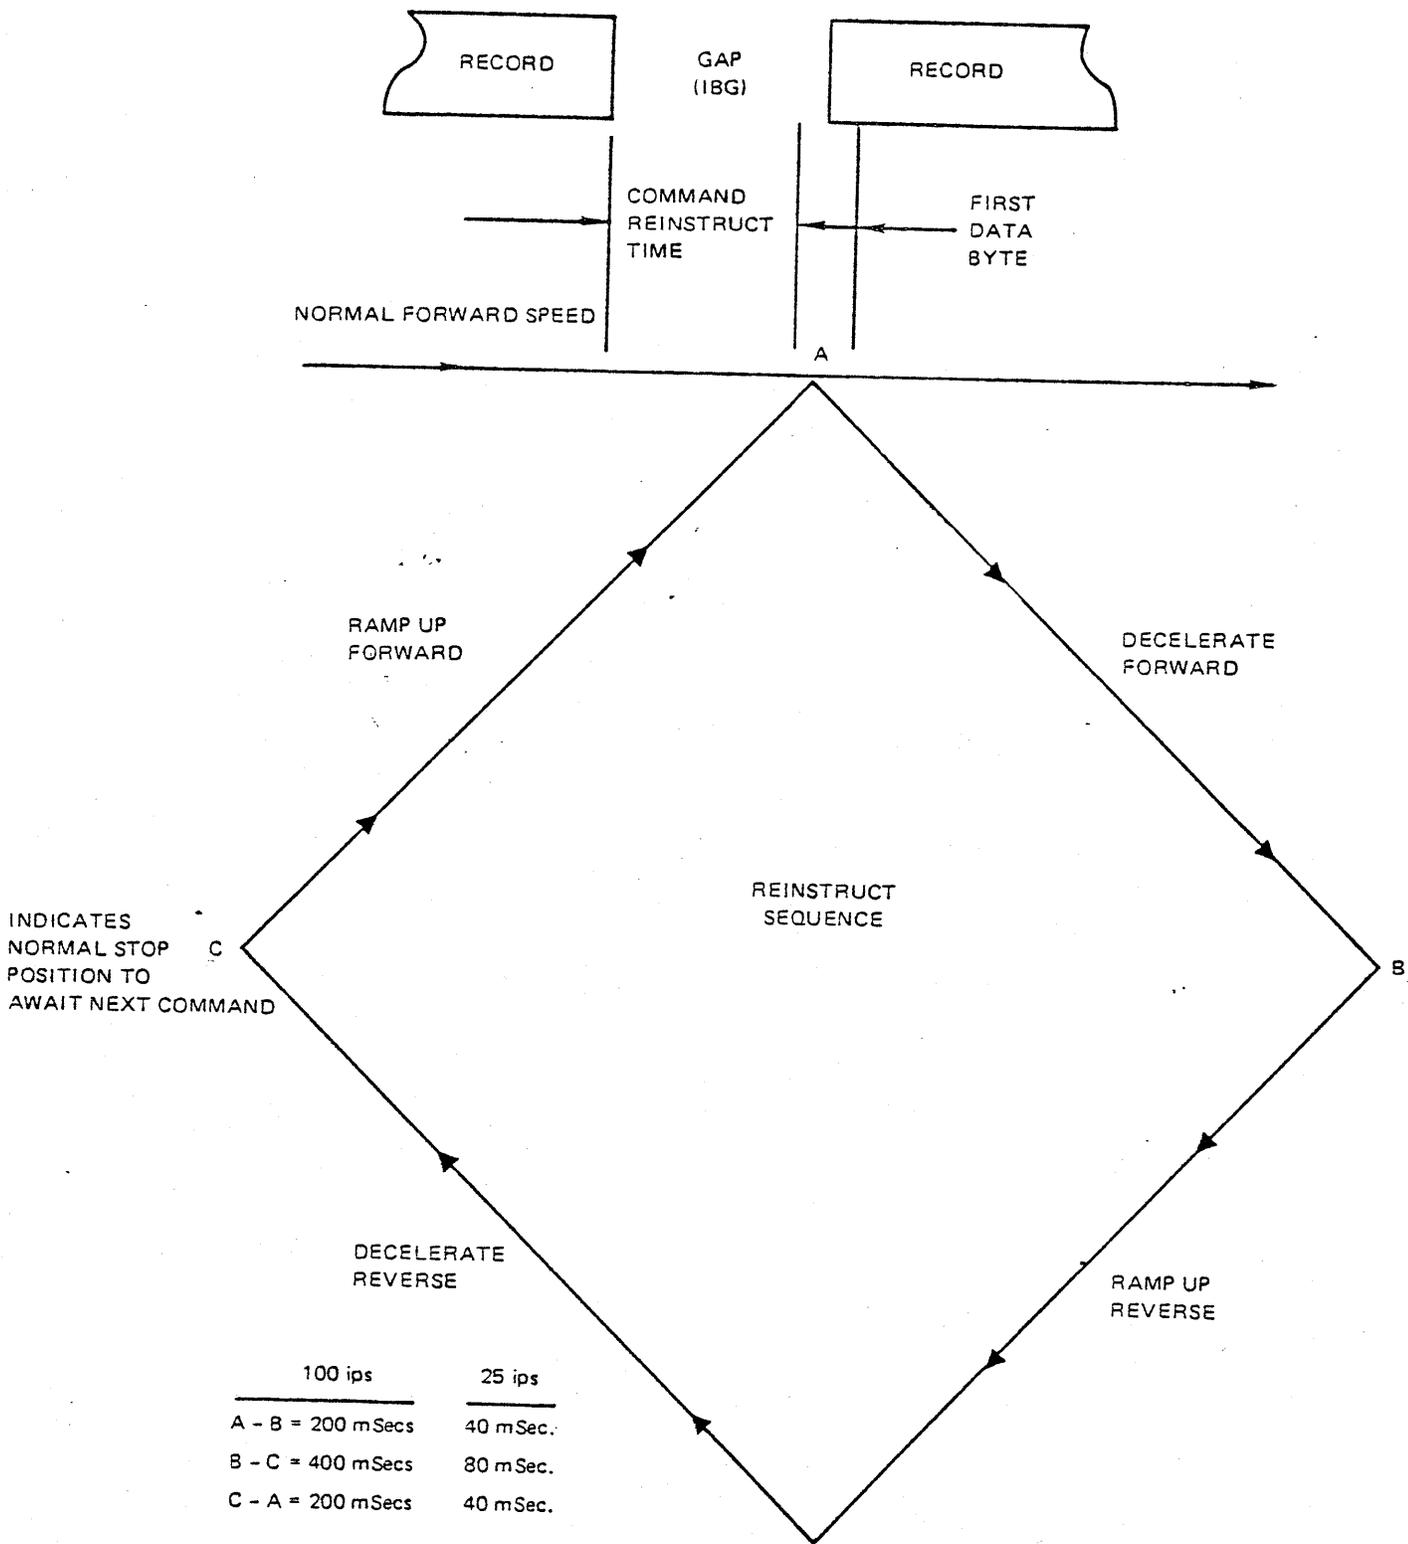

Figure 4-2. Reconstruct Sequence
Figure 4-2 illustrates a typical write forward (or read) operation at high speed. The first record is being written at high speed implying position is changing uniformly at 100 inches per second. At the completion of the write verification, the tape continues to move at 100 ips. If another record is to be written at high speed a GO command must be issued by the controller within four (4) milliseconds* after the last data character of the record and, if issued, the drive will continue in motion at 100 ips and respond with a WSTR after an inter-record gap has been generated.
If, however, the four (4) milliseconds* has elapsed without a GO command, the tape drive will enter a repositioning mode. This is indicated as point A in Figure 4-2. The tape drive decelerates to point B and